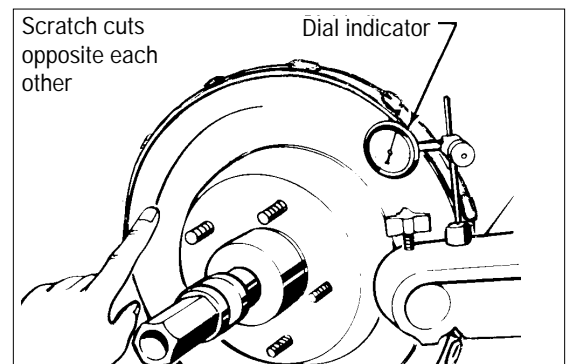

Figure 27 - Using a dial indicator
12. If the scratch cuts are side-by-side, the runout or wobble is caused by rotor condition. A dial indicator may be used to compare rotor runout with manufacturer's specifications. See figure 27.